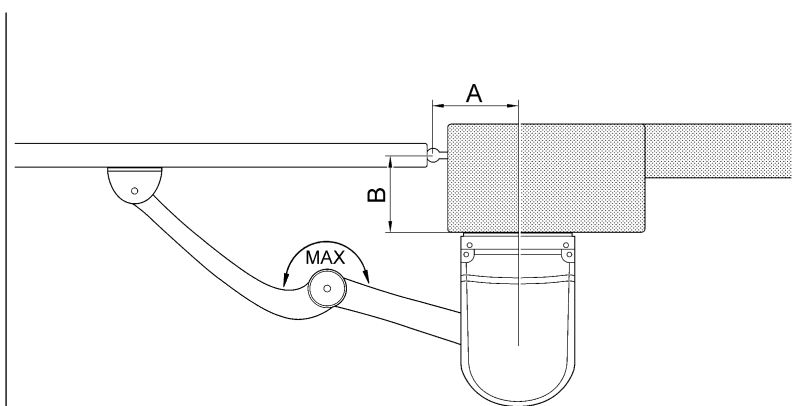

Fig. 5
2.3) Mounting (Fig. 5)
Fasten the leaf mounting bracket to the gate as far away as possible from the post, extending the arms to their maximum reach (Fig. 5). The bracket can be welded to the gate or fastened with screws suited to the gate material.